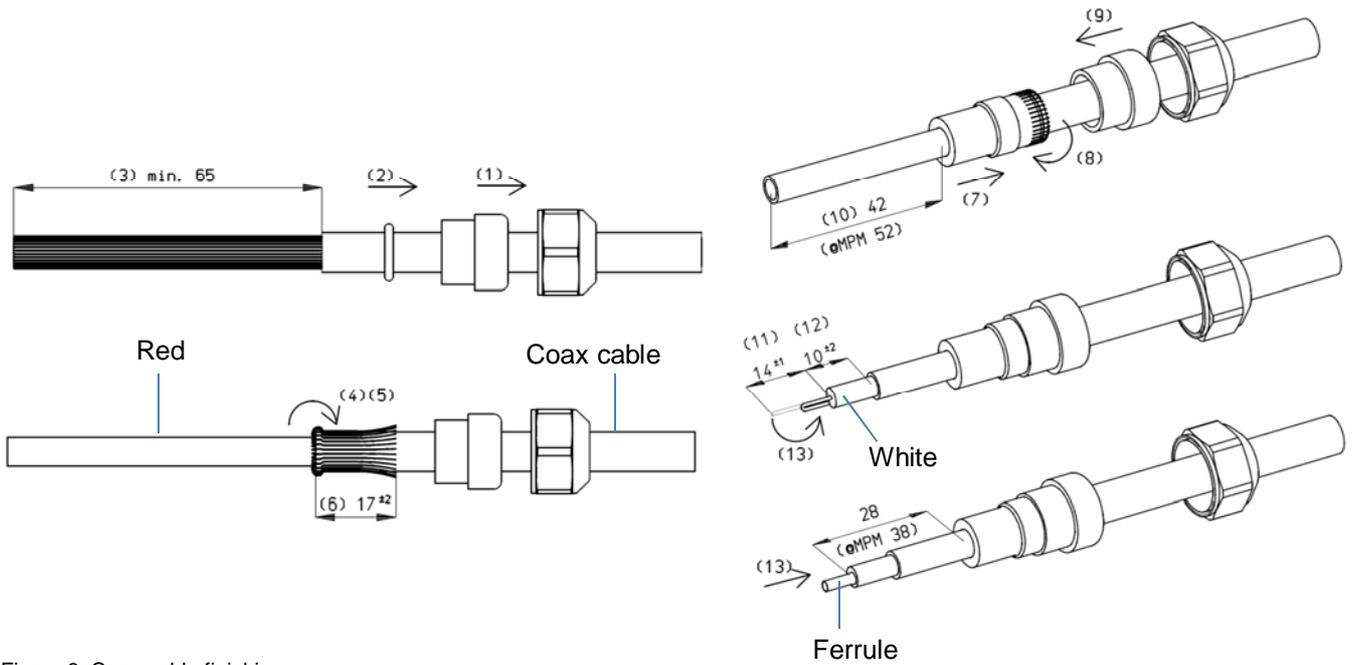
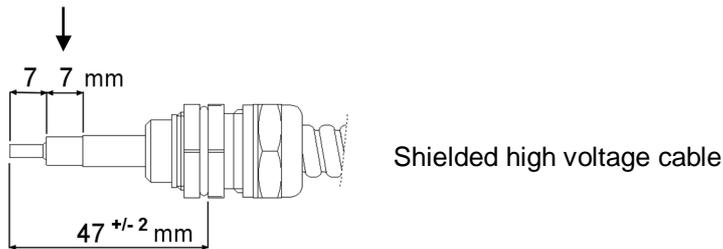

Figure 6: Coax cable finishing
Figure 7: Blue high-voltage cable finishing
- When using a coax cable, check whether the cable length from the PVC socket is 38 mm; see Figure 6. If not correct, adjust. See also the manual for ionisation equipment.
Ionisation equipment high voltage cables may be shortened. However, the metal shielding must not be shortened by the customer. Shielded coax cable must be finished as shown in Figure 6. In the case of blue high-voltage cables, the end of the cable must be finished as shown in Figure 7.